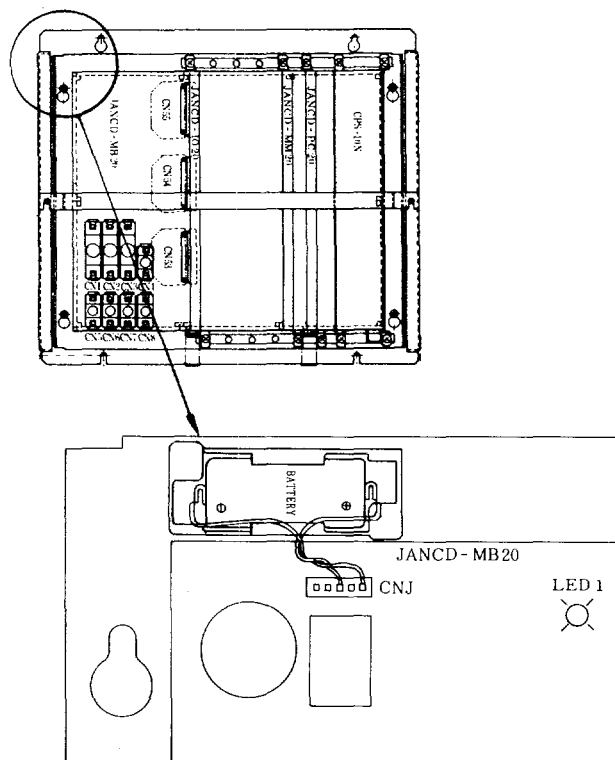

Fig. 2.3 Arrangement of LED and Battery
- (1) Depress POWER OFF pushbutton to shut off the power supply to the operator's station.
- (2) Open the front door of the control. The battery of the memory (printed circuit) board can be seen on the CPU module which is mounted on rear of the front door.
- (3) Where the control is equipped with a door interlock switch, pull it out by hand. The power can be turned on, with the door open.
- (4) Depress POWER ON pushbutton.
- (5) Check to see if 1LED on memory board is illuminated. Fig. 2.3 shows the arrangement of LED and the battery. If illuminated, replace the battery with new one.